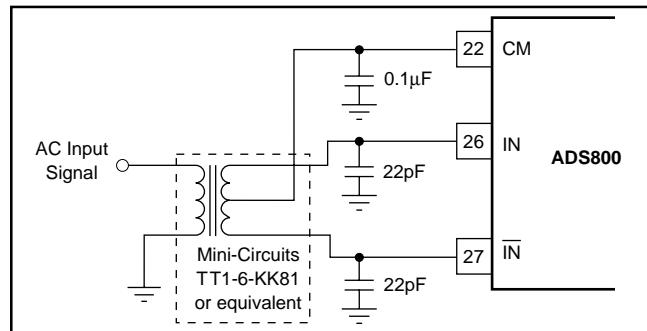

FIGURE 5. AC-Coupled Single-Ended to Differential Drive Circuit Using a Transformer.
The ADS800 has a differential input with a common-mode of +2.25V. For AC-coupled applications, the simplest way to create this differential input is to drive the primary winding of a transformer with a single-ended input. A differential output is created on the secondary if the center tap is tied to the common-mode voltage of +2.25V, as per Figure 5. This transformer-coupled input arrangement provides good high-frequency AC performance. It is important to select a transformer that gives low distortion and does not exhibit core saturation at full-scale voltage levels. Since the transformer does not appreciably load the ladder, there is no need to buffer the Common-Mode (CM) output in this instance. In general, it is advisable to keep the current draw from the CM output pin below $0.5\mu\text{A}$ to avoid nonlinearity in the internal reference ladder. A FET input operational amplifier such as the OPA130 can provide a buffered reference for driving external circuitry. The analog IN and $\overline{\text{IN}}$ inputs should be bypassed with 22pF capacitors to minimize track-and-hold glitches and to improve high input frequency performance.